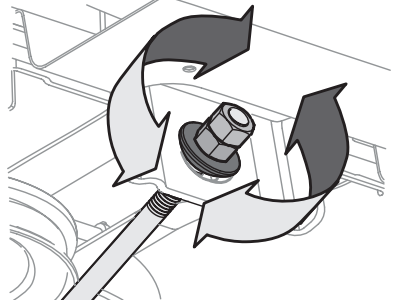

Figure 19
4. To **raise** the front of the deck, loosen the outer nut then tighten (thread inward) the nut against the front hanger bracket (Figure 19). When proper adjustment is achieved, re-tighten the outer nut to 25-30 ft-lbs (34-41 N-m).
5. To **lower** the front of the deck, loosen the outer nut then loosen (thread outward) the nut, away from the front hanger bracket (Figure 19). When proper adjustment is achieved, re-tighten the outer nut.